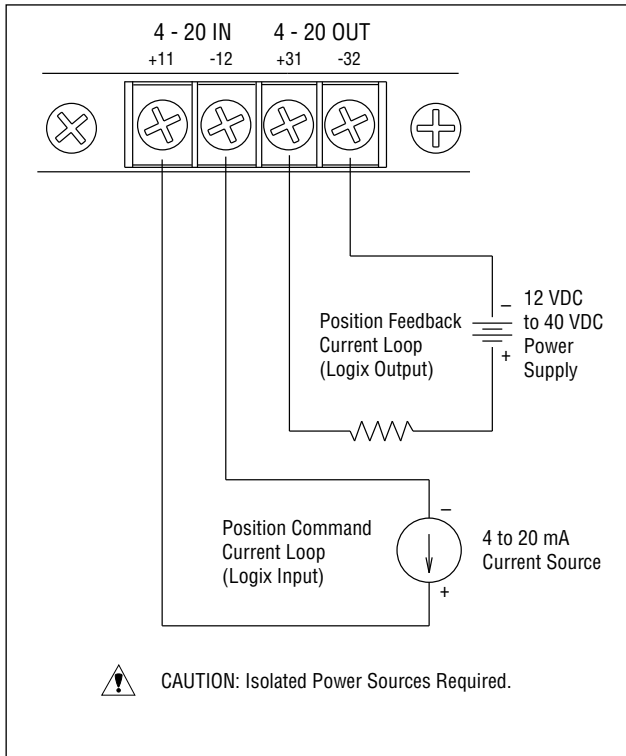

Figure 5: Analog Output Board Power
This option can also be retrofitted in the field. The 4-20 mA analog output board is wired in series with a 12.5 to 40 VDC power supply (see Figure 5). This position feedback option has the following features and specifications:
To replace the 4-20 mA analog output board, refer to Figures 5 and 6 and proceed as outlined below. The following tools are required:
12. Connect the Analog Output wiring to the Analog Output terminals on the User Interface board (see Figure 5.)